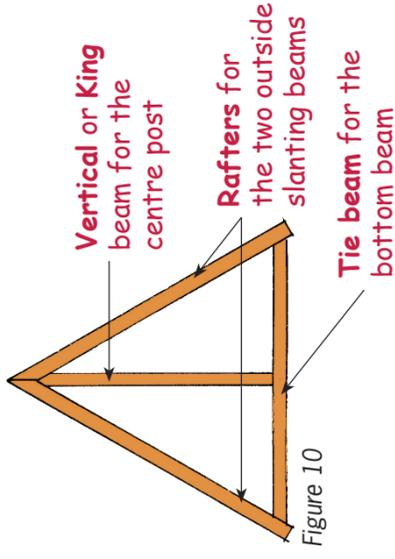

Figure 10
Figures 10 and 11 can be used to show the learners how structures can be reinforced or braced. The idea of struts supporting the roof panels can be demonstrated very effectively through a practical example of Figure 13, using a cardboard tube to show compressive force. If the learners have sourced a supply of cardboard tubes, it makes a very good practical exercise for them to apply as a practical example. It is a very simple way of demonstrating **compressive force**.
The two sloping members on the sides of the horizontal beam in Figure 10 are called **rafters**.
1. Copy the drawing in Figure 10. Write the name of each of the four members next to the member on the diagram. This is called adding **labels** to the diagram.